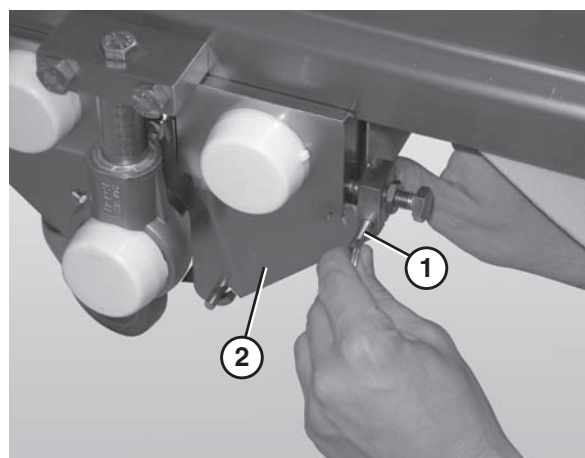

Figure 15
2. Remove the 2 pull pins (**Figure 15, item 1**) from the center drive side plate (**Figure 15, item 2**).
11. Insert the pull pins (Figure 15, item 1).